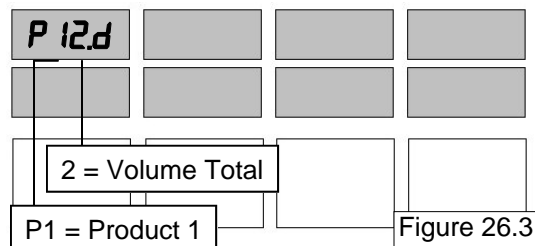

Figure 26.3
1. Press the ↓ button. The main display indicates Hose 1 volume totals. See Figure 26.3.
The main display shows the total volume amount. For example: If the total volume amount for the dispenser were 901,234.567 gallons, the display would appear as in Figure 26.3.